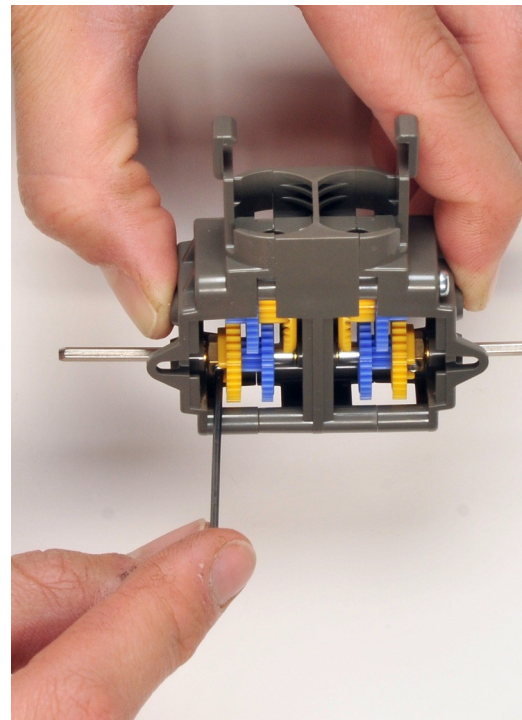

*Figure 1.24*
22. The left side of the housing may not close correctly, as shown in figure 1.24. Do not force together. Instead, while holding the two parts together, use the hex wrench to loosen the left side Grub screw. See figures 1.25 and 1.26. This will allow the two parts to mate properly. Continue to hold the two housing part together. Tighten both Grub screws.